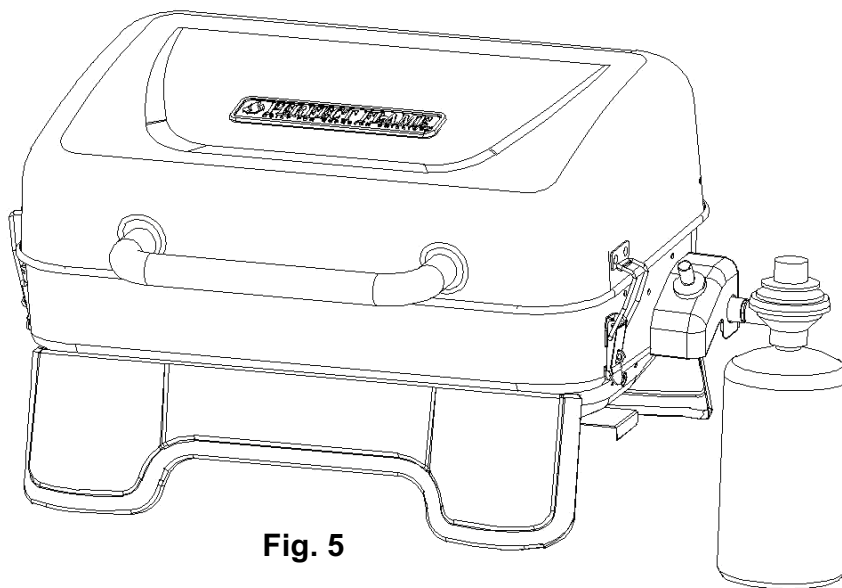

**Fig. 4**
**4. Attach the Regulator Assembly (Fig. 4)**